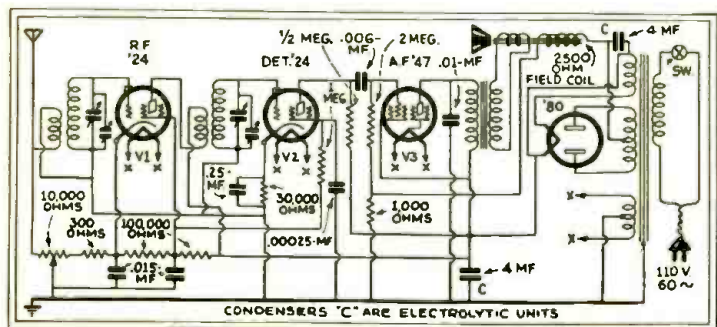

Fig. 2
**O**NE of the very small radio receivers recently offered to the consumer trade is the Model 84 Peter Pan Midget Set, which is illustrated in Fig. C; its schematic circuit is Fig. 2. This circuit is designed to oscillate (with the volume control set at maximum) up to about 700 kc.